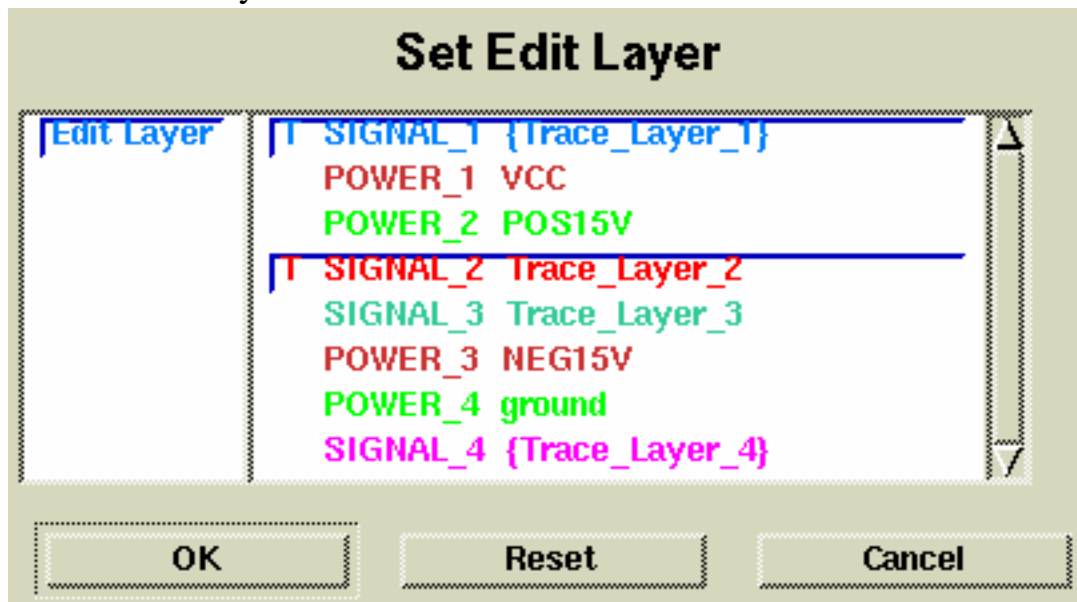

Figure 1-33. Toggle Layers Trace_Layer_1 and Trace_Layer_2
- The routing layer enabled in the Edit Layer list, Figure 1-33, shows layers Trace_Layer_1 and Trace_Layer_2 set as the toggle edit layers.